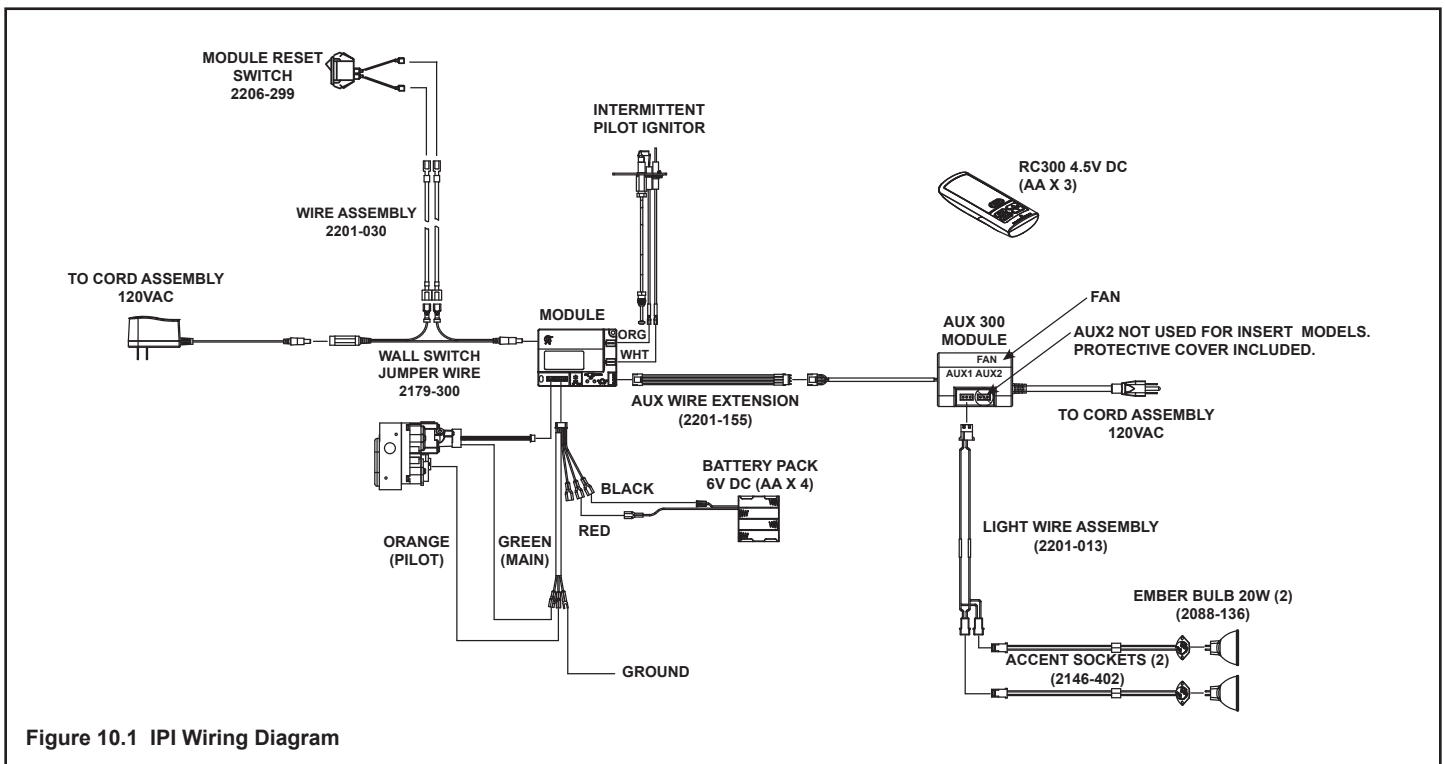

Figure 10.1 IPI Wiring Diagram
- Refer to Figure 10.1, IPI Wiring Diagram.